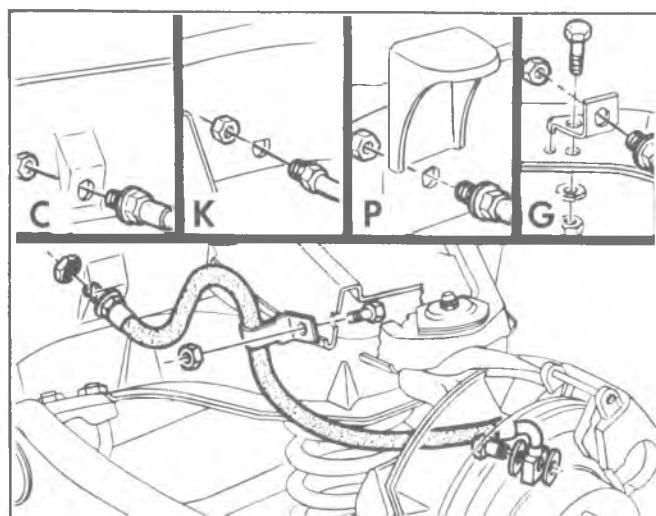

Fig. 33--Brake Hose Frame Support-Typical
## HYDRAULIC BRAKE LINES AND TUBING (Figs. 33 and 34)
**Installation (Fig. 33)**